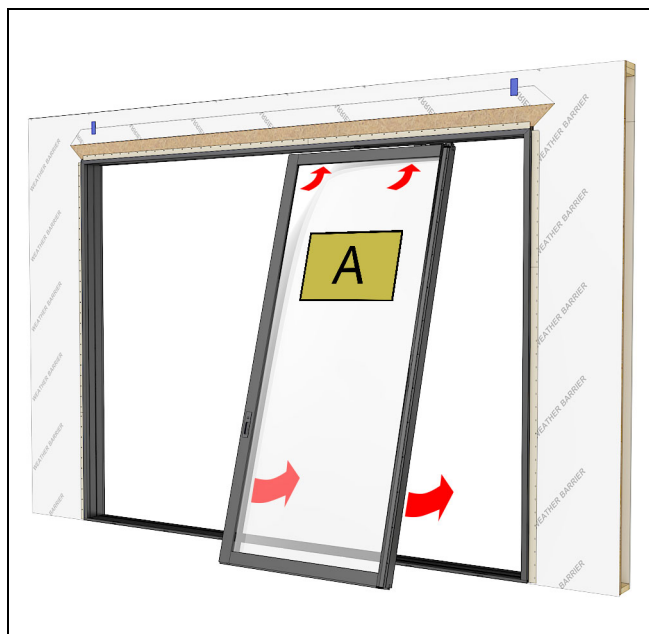

Figure 95
4. Install the operator panel (A) on the interior track. See Figure 95.